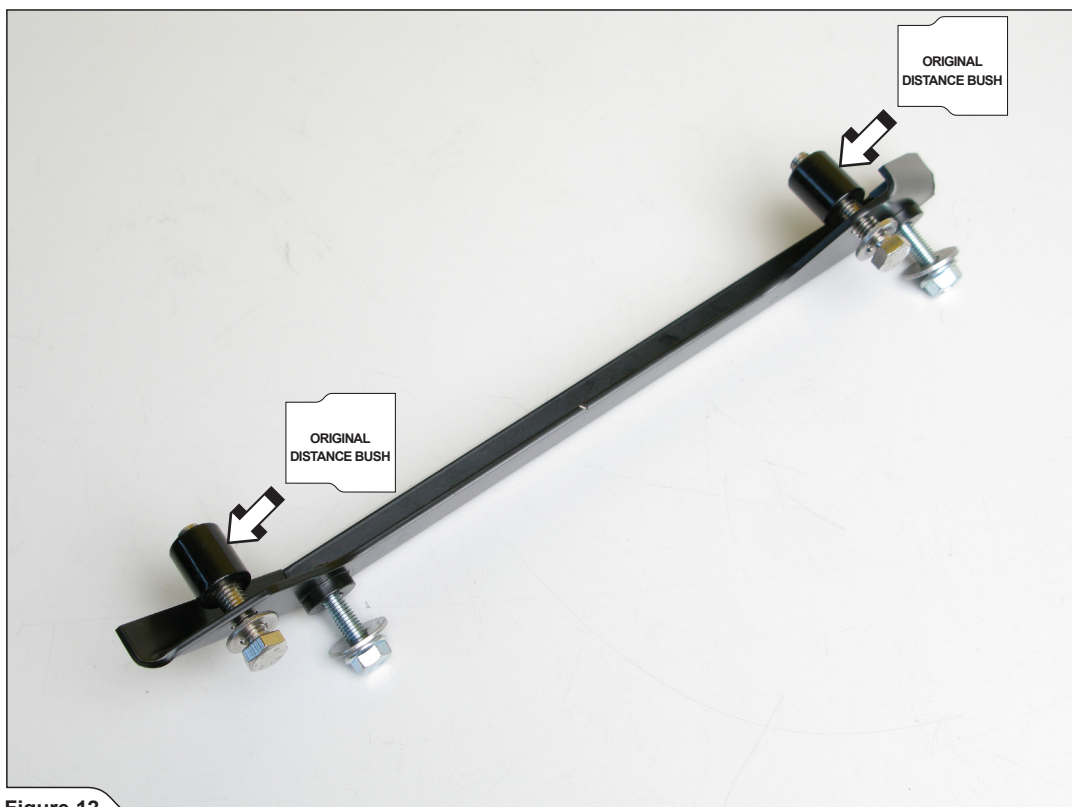

Figure 12
2. Assemble the Akrapovič brackets onto the motorcycle, using original distance bushes and bolts and washers from Akrapovič installation kit (Figure 12, 13).